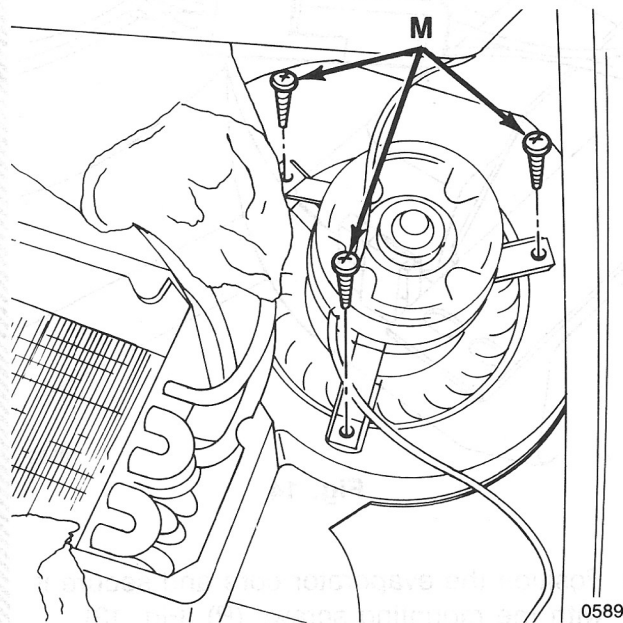

Fig. 11
9. Remove the blower motor mounting screws (M) (Fig. 11).